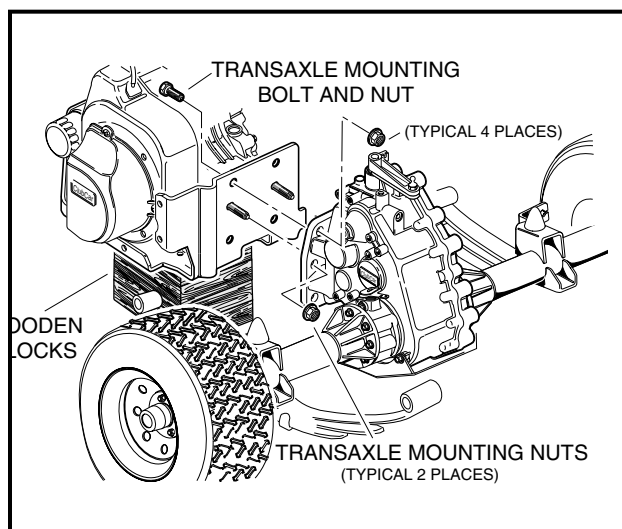

Figure 16a-93 Transaxle Mounting
8. Install the governor cable bracket on transaxle case. Tighten the mounting screws to 134 in-lb (15.1 N·m) (**Figure 16a-96, Page 16a-43**).